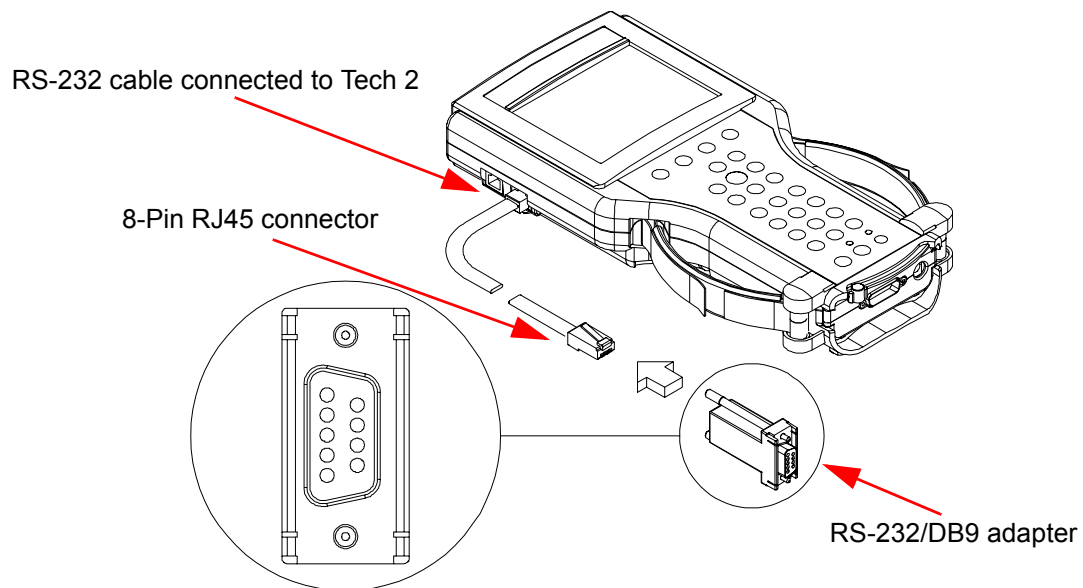

FIGURE 5-3. RS-232/DB9 Adapter Connections
- Make sure that the RS-232 cable (P/N 02001358) is attached to the Tech 2 RS-232 port located on the left side of the Tech 2 (Figure 5-3).
The RJ45/DB9 adapter (P/N 02001030) has an RJ45 connector at one end and a DB9 connector at the other (Figure 5-3). This adapter allows the connection of the Tech 2 to a PC.
The loopback adapter (P/N 02001606) has an 8-pin RJ45 connector that attaches to the Tech 2 RS-232 port (Figure 5-3). It is used to perform the Tech 2 self test.